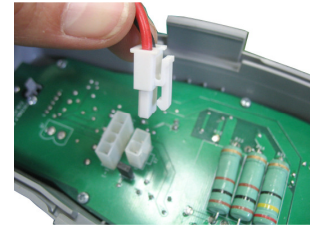

Figure 1.18b
- Connect the power supply plug to the Perimeter Switch board (see figure 1.18b) and reassemble the Perimeter Switch.